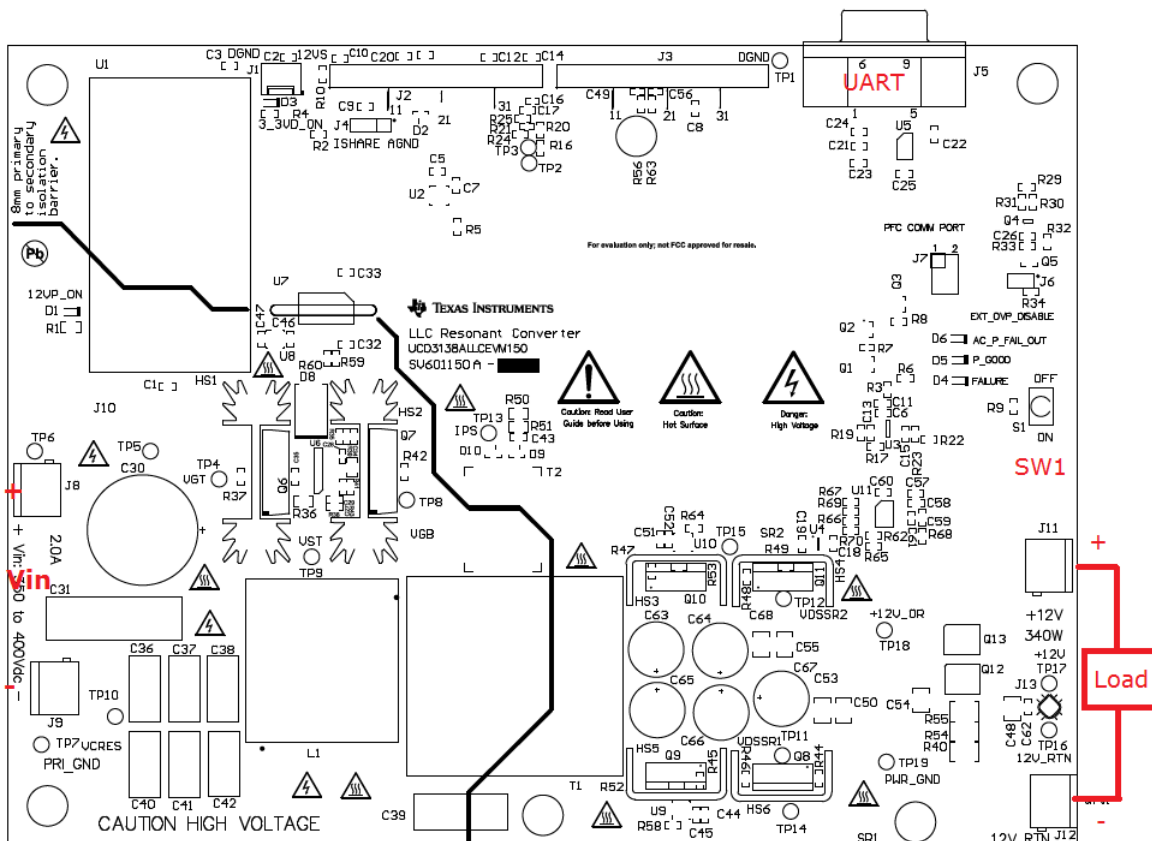

Figure 0-10. UCD3138ALLCEVM150 Recommended Test Set Up
1. Refer to Figure 0-10 for basic set up to measure power conversion efficiency. The required equipment for this measurement is listed in Section 0.5.1.